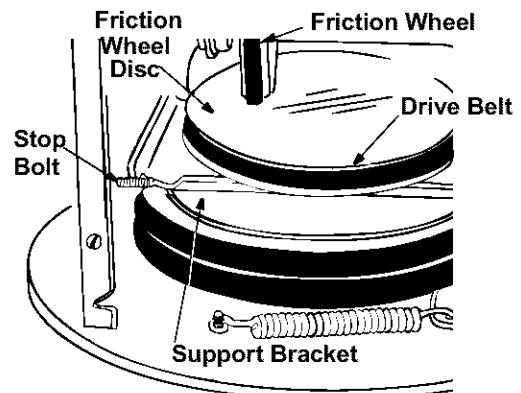

Figure 19
- Back out the stop bolt to allow the belts to slip between the bolt and auger pulley. See Figure 19.
- Back out the stop bolt until the support bracket rests on the auger pulley. See Figure 19.
NOTE: The support bracket must rest on the stop bolt after the new belt has been assembled. See Figure 19.